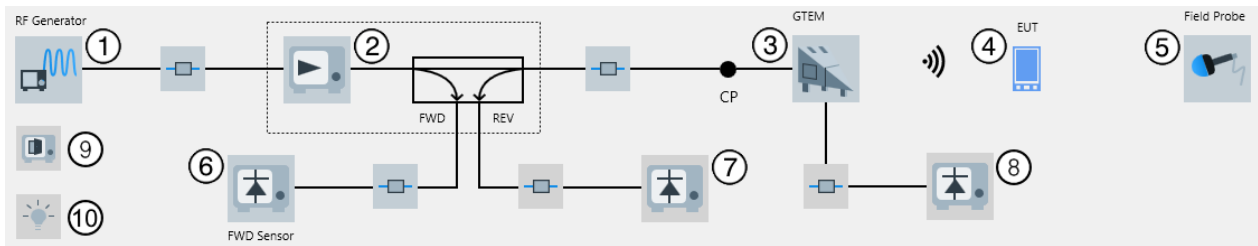

Figure 4-155: EMS hardware setup diagram (radiated) for a TEM Waveguide in EUT Test View
- The "EUT Test View" (see Figure 4-155)
If you select a receiver instead of the field probe (default for (5) in Figure 4-155), the hardware setup also requires an antenna. The diagram changes as follows: